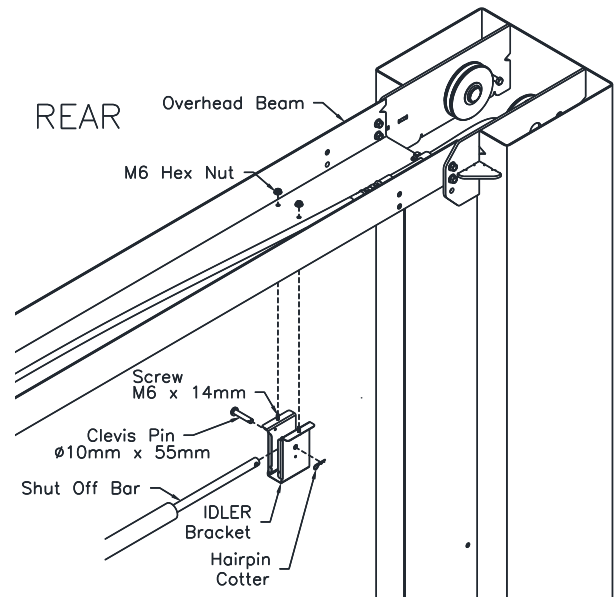

Fig. 8 – Overhead Bracket Idler Side
- 28) Install the Idler Bracket to the Overhead Beam using the rear set of holes on the Idler Side of the lift. Fig. 8. Note the orientation of the Idler Bracket. The narrow slot needs to be facing towards the Power Column. Slide the Shutoff Bar over the limit switch on the Power Side. Pin the Shutoff Bar to the Idler Side Bracket with the 10mm dia. x 55mm Lg. clevis pin & hairpin cotter.